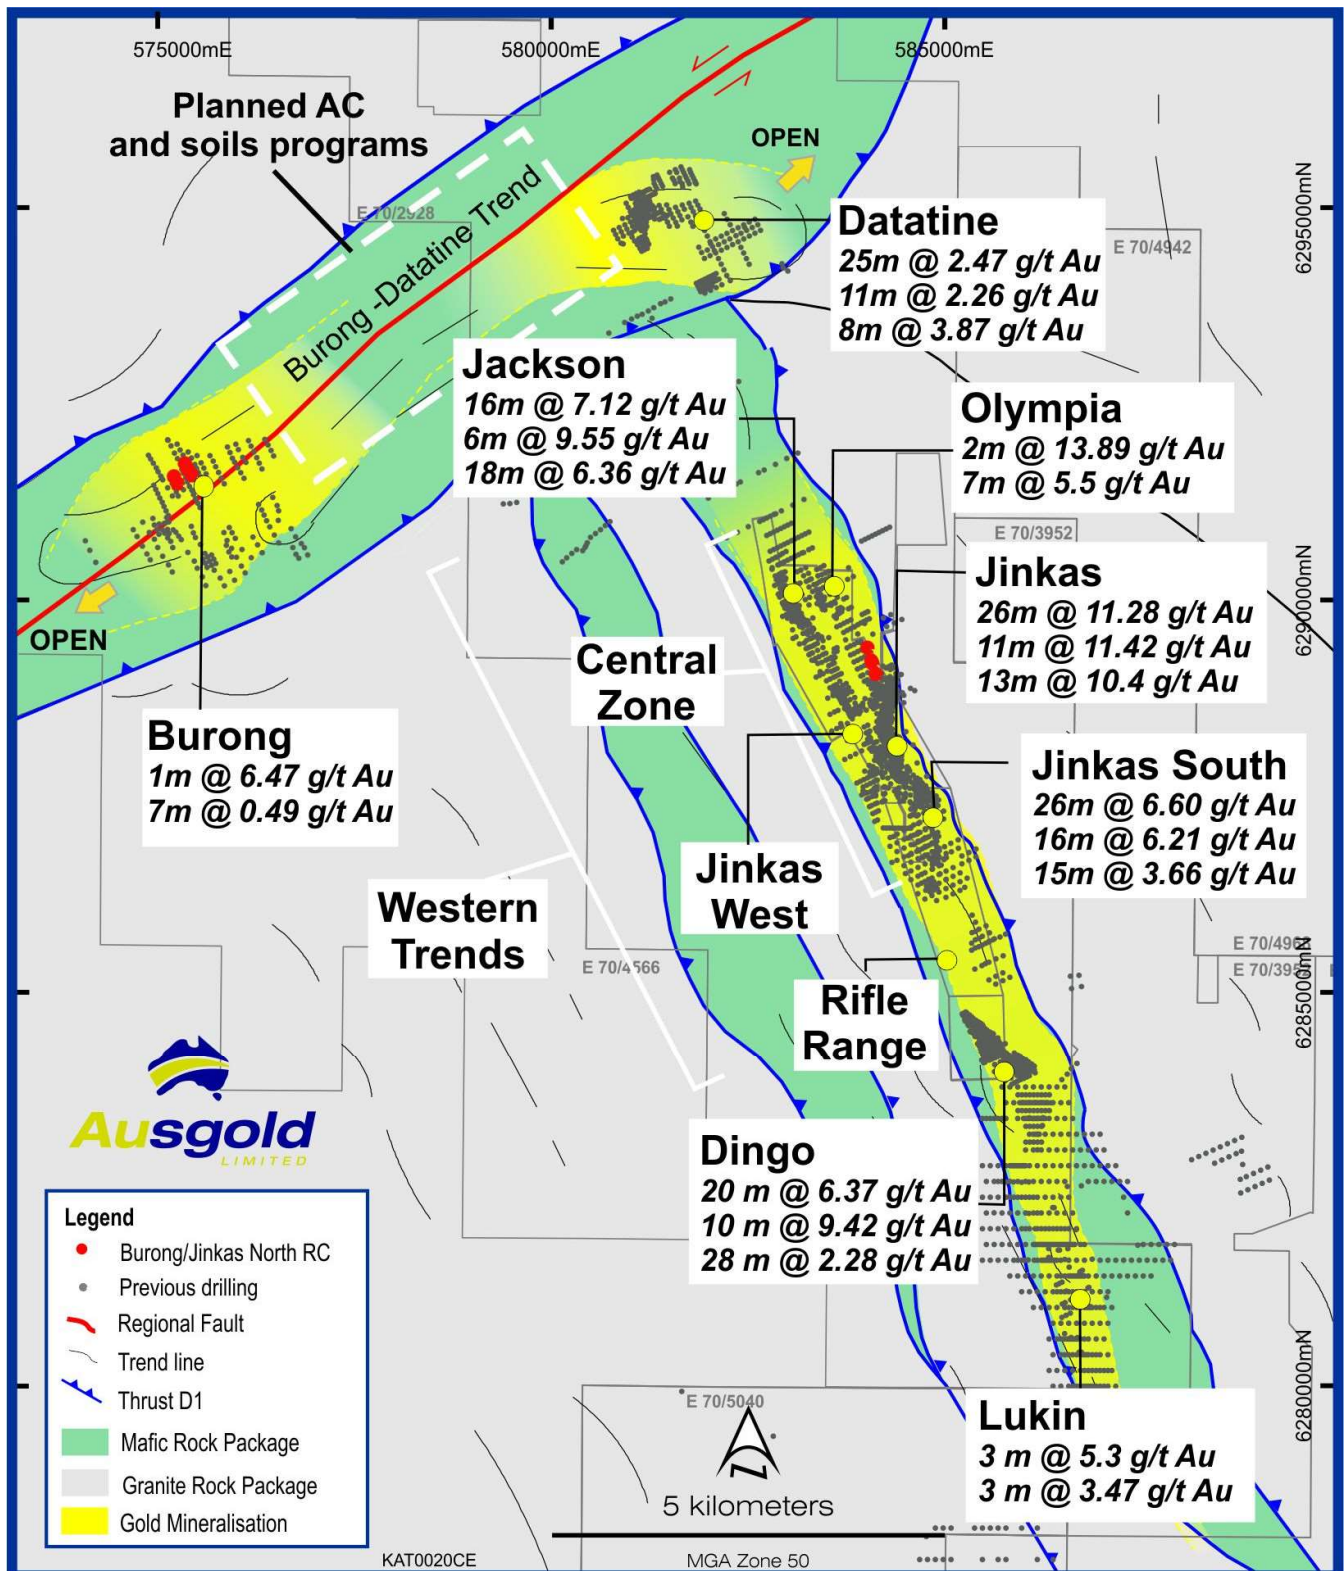

Figure 1 - Location of Recent Drilling at Burong and Jinkas North shown in red
Ausgold Limited (ASX: AUC) ("Ausgold" or "the Company") is pleased to provide an update of exploration activities at its 100%-owned Katanning Gold Project (KGP) in Western Australia's south-west Yilgarn craton. Nine reconnaissance Reverse Circulation (RC) holes for 1,015m have been drilled to test two areas within the KGP (Figure 1).